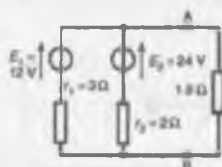
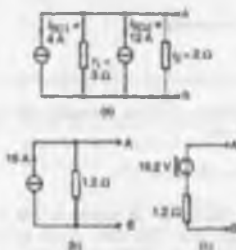

Figure 13.71
Figure 13.72
Problem 20. (a) Convert the circuit to the left of terminals AB in Fig. 13.71 to an equivalent Thévenin circuit by initially converting to a Norton equivalent circuit. (b) Determine the current flowing in the $1.5\ \Omega$ resistor.
- (a) For the branch containing the 12 V source, converting to a Norton equivalent circuit gives $I_{SC} = 12/3 = 4\text{ A}$ and $r_1 = 3\ \Omega$. For the branch containing the 24 V source, converting to a Norton equivalent circuit gives $I_{SC} = 24/2 = 12\text{ A}$ and $r_2 = 2\ \Omega$. Thus Fig. 13.72(a) shows a network equivalent to Fig. 13.71
From Fig. 13.72(a) the total short-circuit current is $4 + 12 = 16\text{ A}$ and the total resistance is given by $(3 \times 2)/(3 + 2) = 1.2\ \Omega$. Thus Fig. 13.72(a) simplifies to Fig. 13.72(b). The open-circuit voltage across AB of Fig. 13.72(b), $E = (16)(1.2) = 19.2\text{ V}$, and the resistance 'looking-in' at AB is $1.2\ \Omega$. Hence the Thévenin equivalent circuit is as shown in Fig. 13.72(c).
- (b) When the $1.5\ \Omega$ resistance is connected between terminals A and B of Fig. 13.72(c) the current